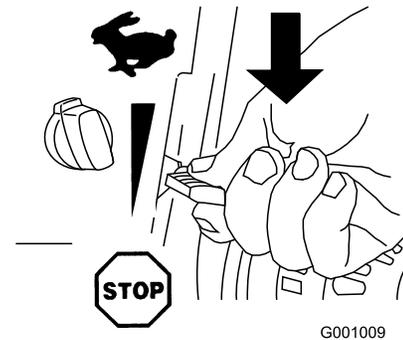

Figure 29
- Move the throttle to the Stop position (Figure 29).